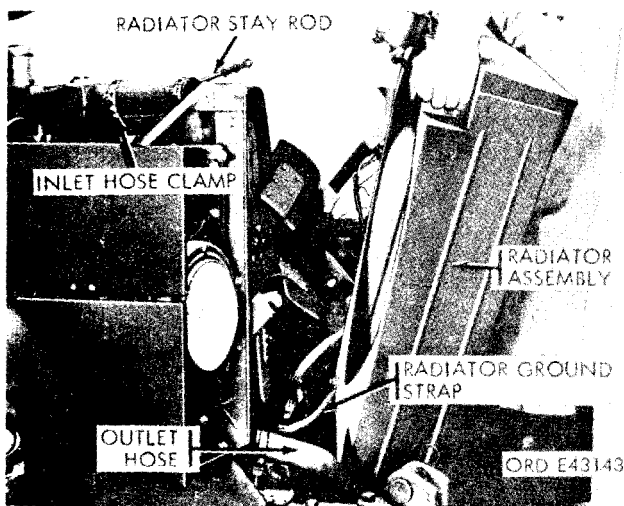
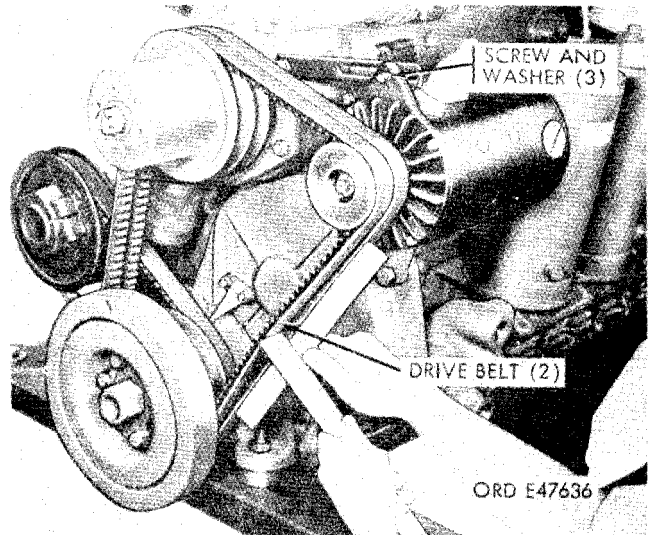
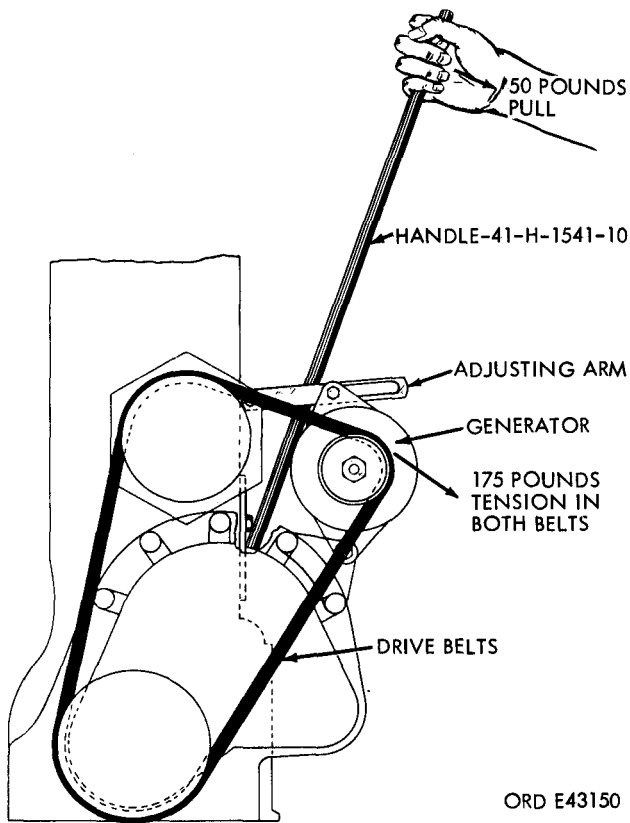

Figure 2-126. Removing radiator assembly.
Figure 2-127. Drive belt adjustment.
Figure 2-128. Adjusting drive belts.
(9) Lift the radiator (fig. 2-126) away from the mounting place.
(8) Slide the front end of the radiator inlet hose (fig. 2-126) on the radiator inlet, and tighten the hose clamp.
(9) Install the brush guard (para 2-236).
(10) Fill the cooling system. Refer to TM 9-2320-211-10.
*a. Adjustment.* Drive belt adjustment should be made on new engines after the vehicle has traveled 100 miles. Check the drive belt tension by applying a slight pressure individually to each belt at a point midway between fan and generator pulleys. Belt deflection at this point should be between ¼ and ½ inch as indicated in figure 2-127. If belt deflection is less than ¼ inch or more than ½ inch, adjust as follows:
(1) Loosen the **generator-to-adjusting** arm screw (fig. 2-127).
(2) Insert the end of the rim tool-and-wheel nut wrench handle (fig. 2-128), or a 30-inch bar between the crankcase and the generator.
(3) Pull the upper end of the handle away from the engine with a pull of 50 pounds (fig. 2-128), and keeping the handle in this position, tighten the generator-to-adjusting arm screw (fig. 2-127).
(1) Loosen the generator-to-adjusting arm screw (fig. 2-127), and move the generator as far as it will go toward the engine.
(2) Remove the front belt from the generator, fan, and crankshaft pulleys, and lift the belt over the fan.
(3) Remove the rear belt as described in (2) above.
(1) Place the rear drive belt (fig. 2-127) over the fan, and then over the crankshaft, fan, and generator pulleys.
(2) Install the front drive belt as described in (1) above.
(3) Adjust the drive belts as described in *a* above.
(1) Loosen the generator-to-adjusting-arm capscrew (fig. 2-127).
(2) Insert the end of the rim tool-and-wheel nut wrench handle or a 30-inch bar, between the crankcase and the generator. Make sure that the lower end of the handle will bear against the crankcase at a point directly below the front capscrew on the valve tappet chamber front cover.
(3) Pull the upper end of the handle with a pull of 50 pounds and, keeping the handle in this position, tighten the generator-to-adjusting arm cap screw. This procedure should place both belts under the proper tension, and allow the belt deflection specified above.